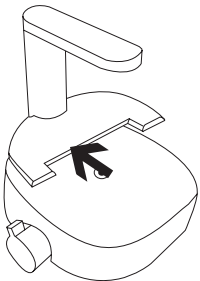

Figure 14. Slide the adapter plate into place.
- ▶ Carefully slide the notch of the adapter plate around the base of the light arc (Figure 14).